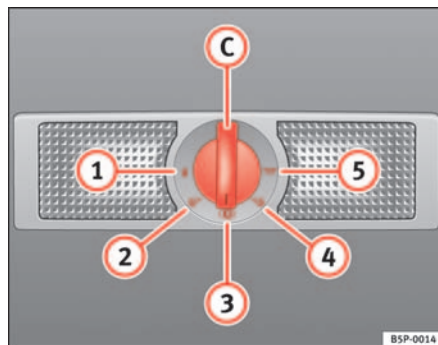

Fig. 82 Detail of the roof:
The switch ⇒ fig. 82 ③ is used to select the following positions:
In switch position ⇒ fig. 82 ①, the interior and reading lights are switched off.